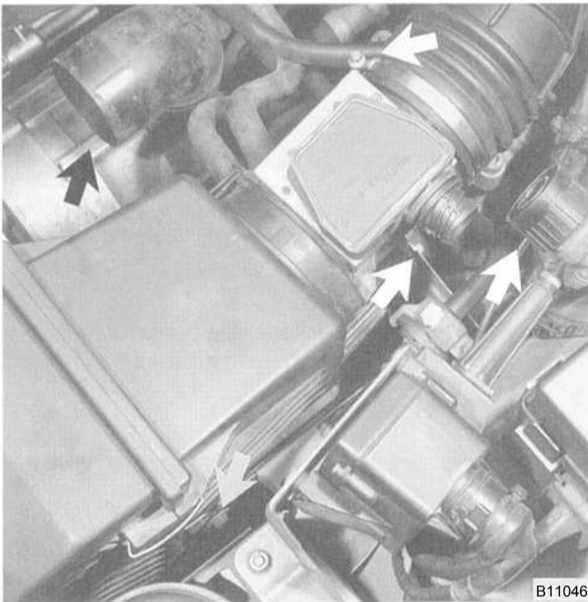

Fig. 7. Alternator cooling duct, air mass sensor connector, intake air duct hose clamp, and air cleaner housing mounting nuts (arrows)
7. Unscrew and disconnect the electrical connector from the air mass sensor. Loosen the intake air duct hose clamp and disconnect the vacuum hoses from the air duct. Loosen the air cleaner housing mounting nuts and remove the air cleaner housing from the car together with the air mass sensor and the intake air duct. See Fig. 7.